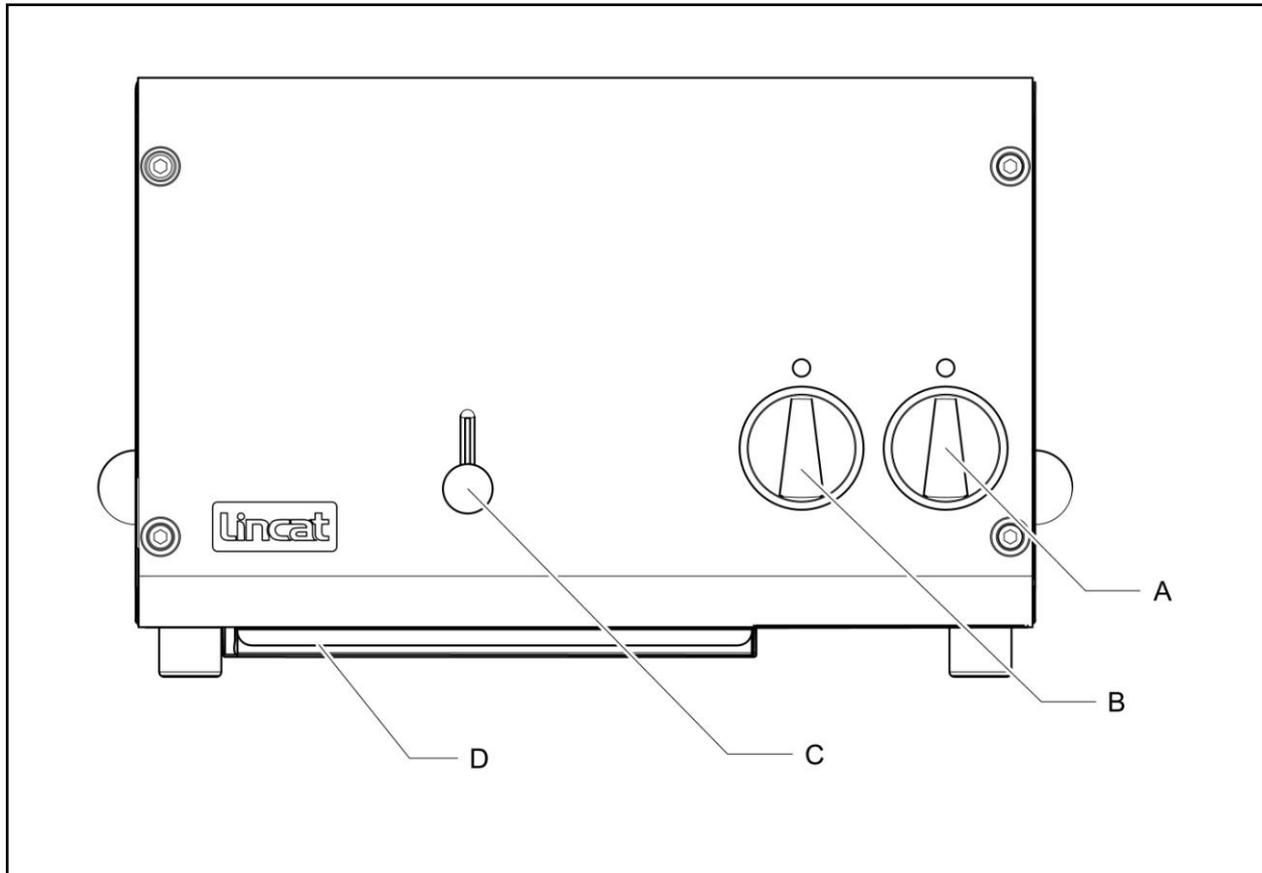

Fig 2
Set the timer control Fig 2 (A) to the Off position and connect the appliance to an electrical supply.
Regularly check and empty the crumb tray Fig 2 (D).